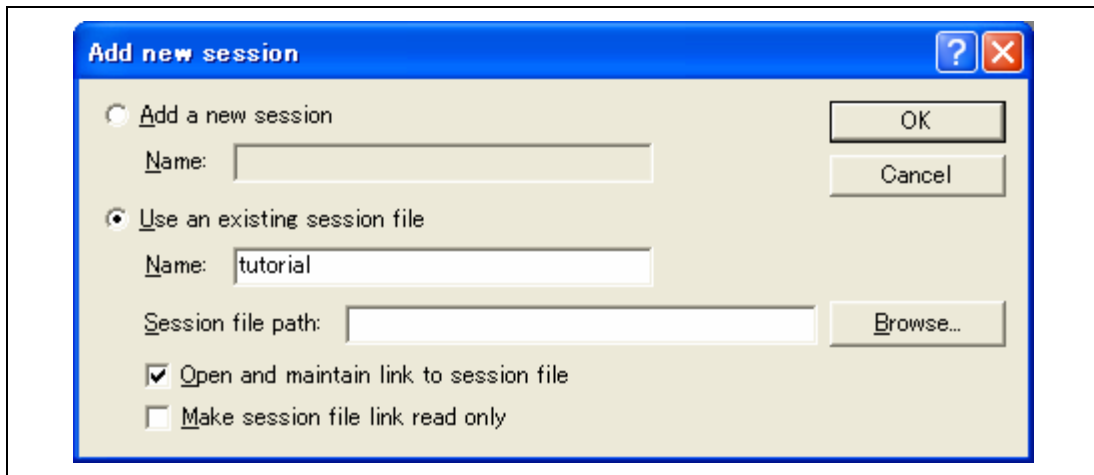

Figure 4.32 [Add new session] Dialog Box
2. Click the [Add...] button to display the [Add new session] dialog box (figure 4.32).